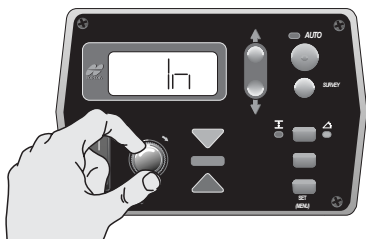

Figure 36. Select Measuring Unit
2. Rotate the Grade Adjustment Knob to select a unit for measuring (feet, inches, or centimeters) (Figure 36).